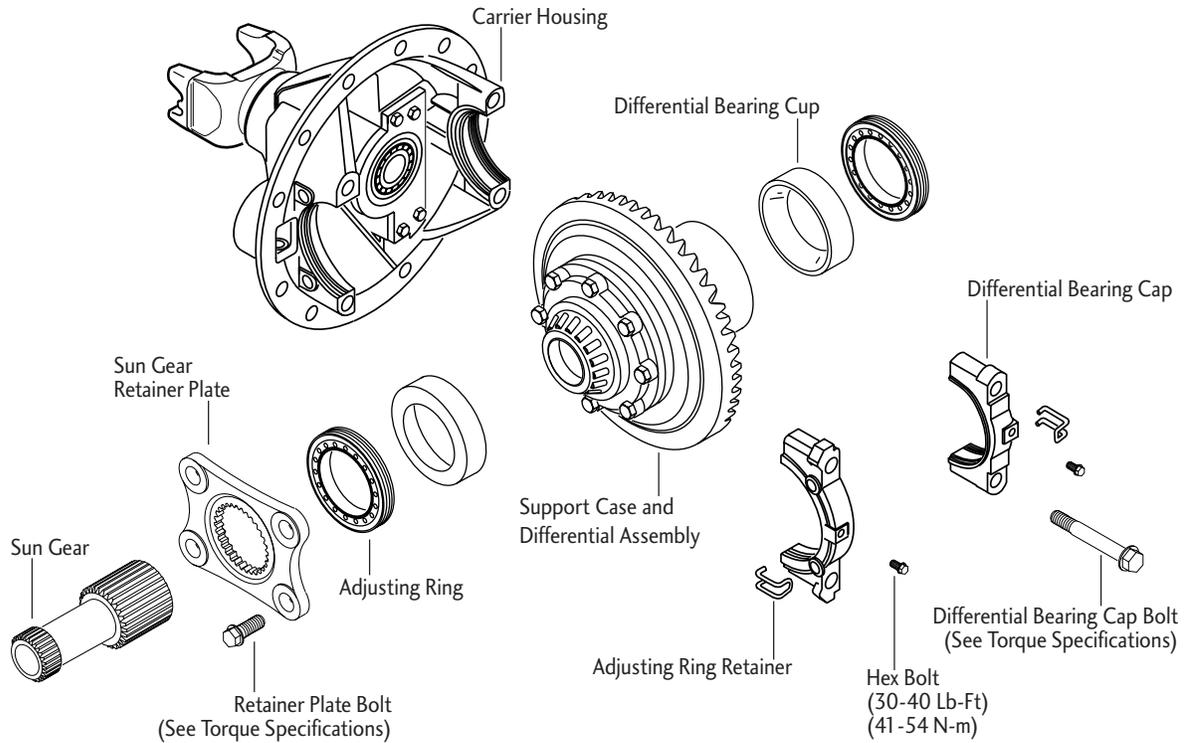

**Figure 1**
8. Break carrier loose from housing with use of pry bars behind carrier flange mounting face. See Figure 1.